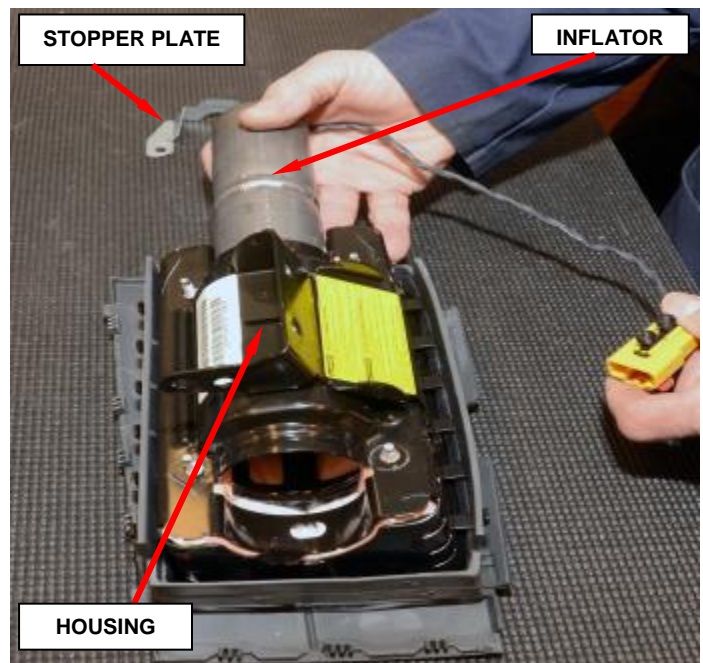

Figure 24 – Inflator Removal
- f. Slide the inflator out of the housing (Figure 24).